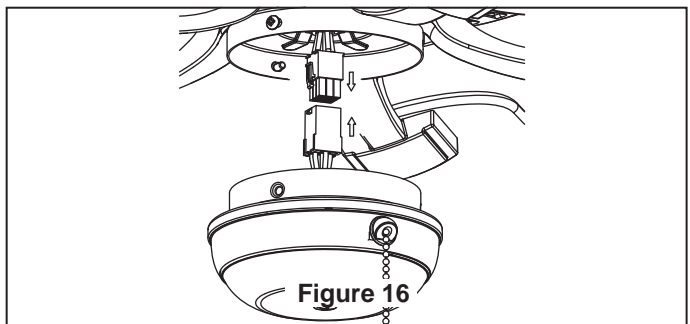

Figure 16
1. Securely attach the 9-pin switch cup connector to wiring harness socket within Switch Cup Assembly. (Figure 16)